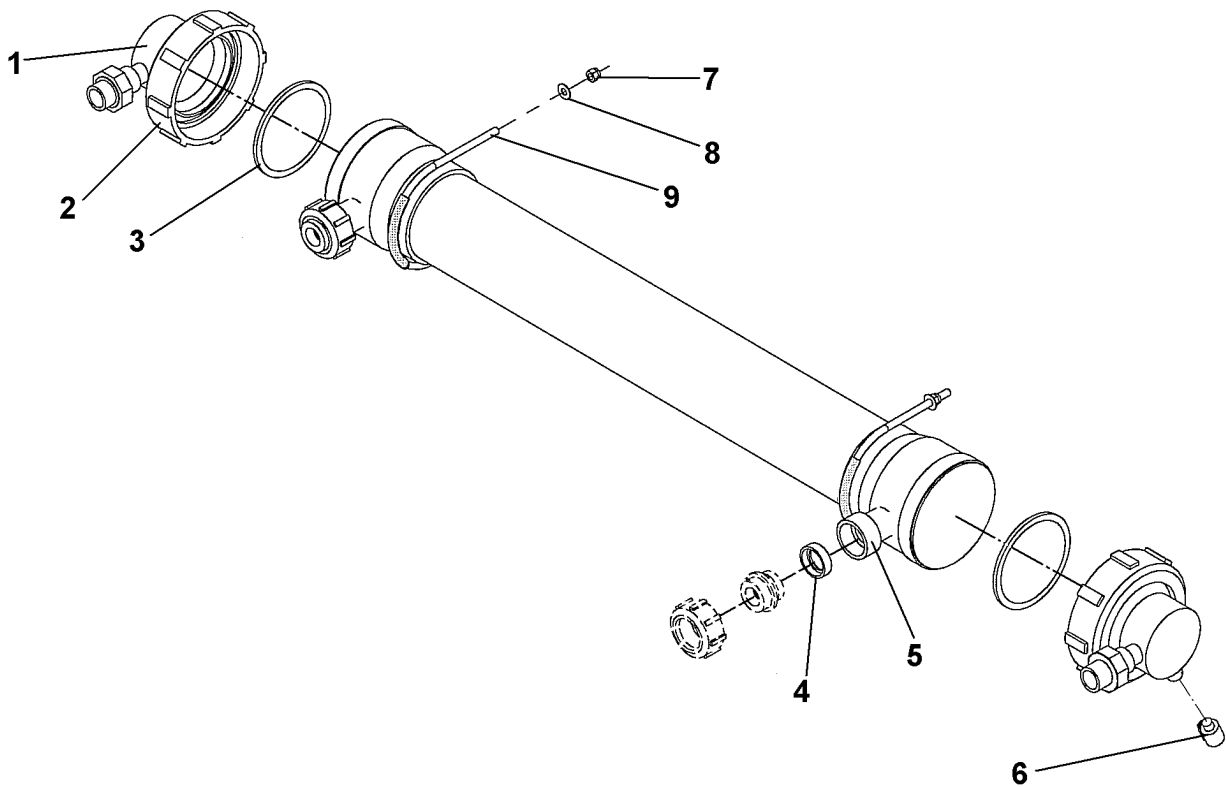

Figure 2. Cartridge Mounting Hardware.
4. Remove nuts (7), washers (8) and U-bolts (9). See Figure 2.
6. Remove the end caps (1) by unthreading the nuts (2).
2. Install gasket (4) in the filtrate port (5). See Figure 2.
3. Install o-rings (3).
4. Install end caps (1) by tightening the nut (2). The nut should be hand tightened all the way and then use the strap wrench to tighten it a quarter turn more.
6. Install u-bolts (9) and fasten with nuts (7) and washers (8).